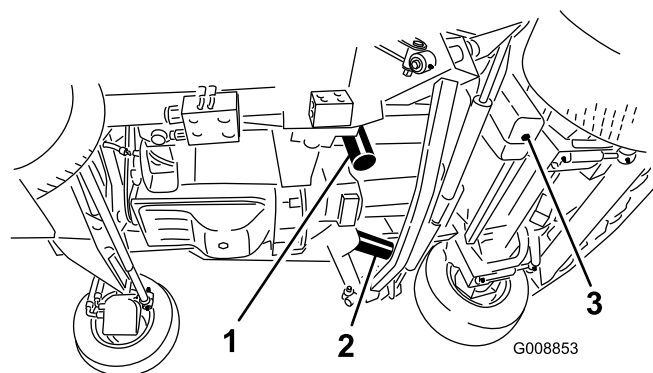

Figure 89
3. Remove the drain plug (Figure 89) from the bottom of the tank and let the hydraulic fluid flow into the pan. Install the drain plug when the hydraulic fluid stops draining.
5. Place a drain pan under the filter and remove the filter (Figure 89).